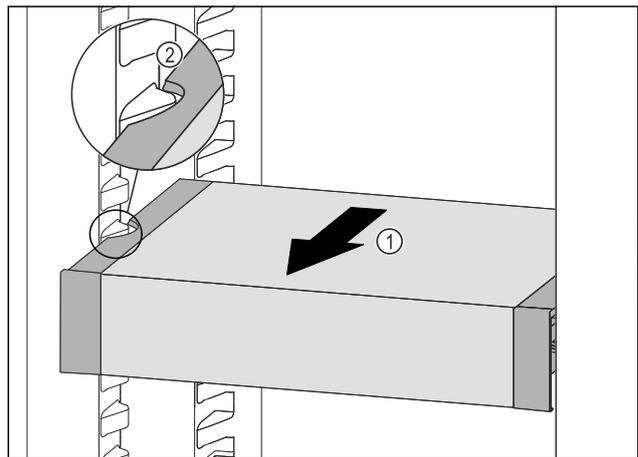

Fig. 131
- ▶ Pull VarioSafe forward *Fig. 131 (1)* until the recesses in the side of the VarioSafe are at the level of the support rib in the refrigerator compartment. *Fig. 131 (2)*